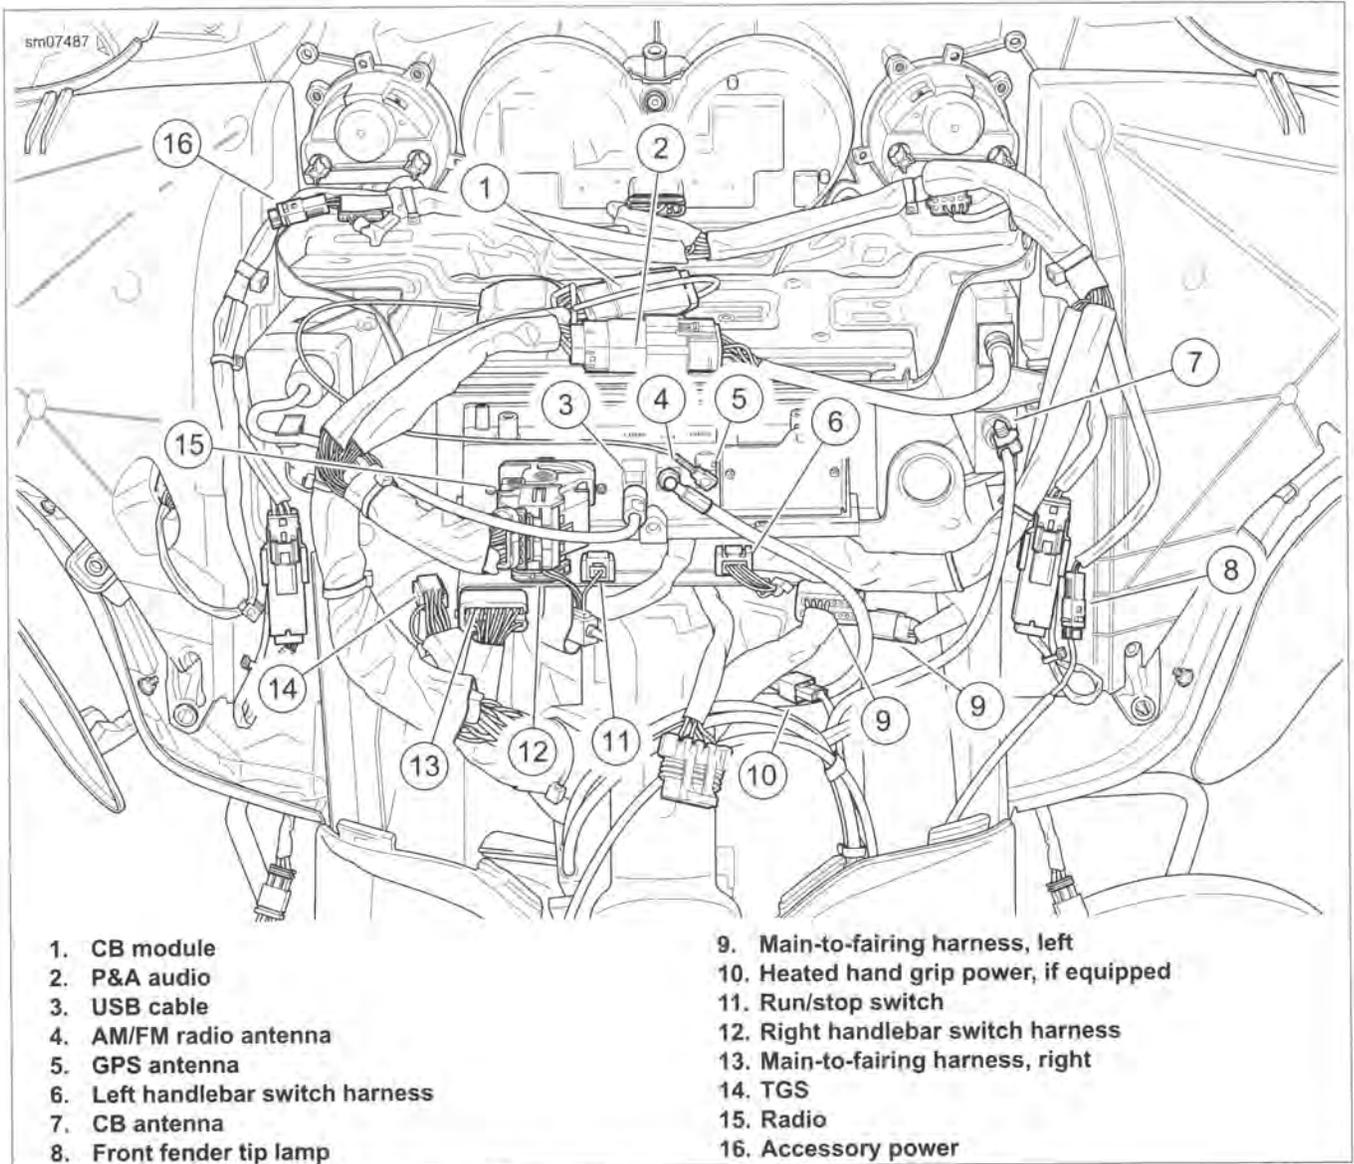
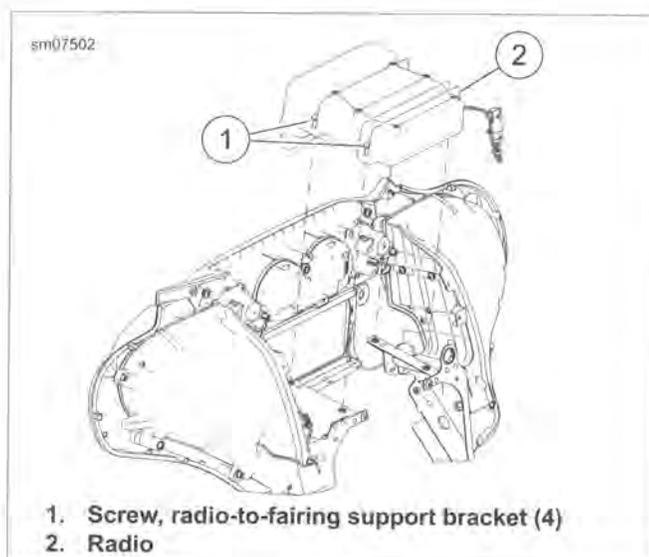

Figure 7-83. Inner Fairing Harness Connectors
Figure 7-85. Remove Radio from Fairing Brackets
5. See Figure 7-83. Disconnect:
- a. Radio connector (15).
- b. USB connector (3).
- c. Radio antenna cable connector (4).
- d. GPS connector (5).
6. See Figure 7-85. Remove four screws (1) to release radio from fairing support brackets.
2. See Figure 7-85. Install four screws (1). Leave fasteners loose.
5. See Figure 7-85. Tighten screws (1) to 60-84 in-lbs (6.8-9.5 Nm).
6. See Figure 7-83. Mate connectors:
3. See Figure 7-83. Disconnect:
- a. CB antenna cable connector (7).
- b. CB module connector (1).
3. See Figure 7-83. Mate connectors: